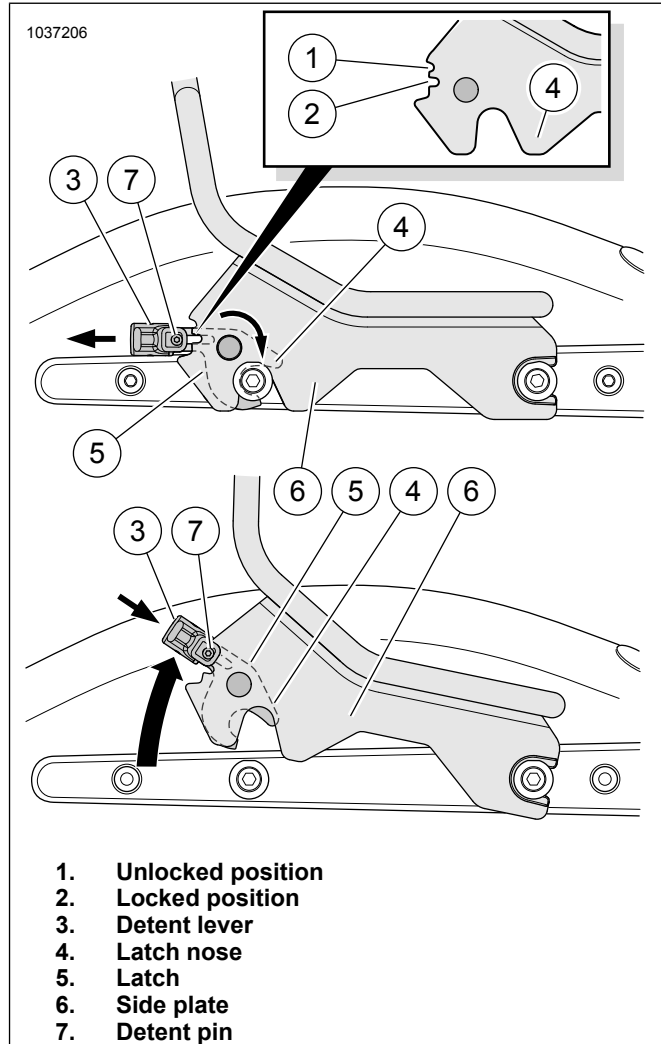

Figure 2. Detachable Backrest Removal
1. See Figure 2. Pull both detent levers (3) rearward from the locked position (2), against the compression spring (8).